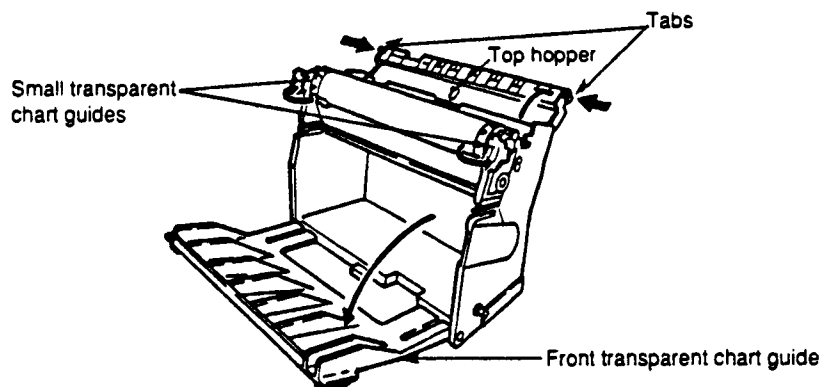

Figure 3-3. Loading the Chart-2
5. Press the sides of the chart guide plate at the top rear of the chart compartment and swing the guide plate up (see Figure 3-3).
6. At the front, pull/swing the front transparent chart guide down and swing the small transparent chart guides open (see Figure 3-3).